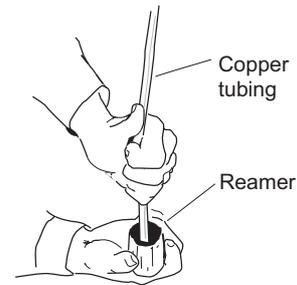

Fig. 1- 51
- (4) Make a flare at the end of the copper tube with a flare tool. (Fig. 1- 52)